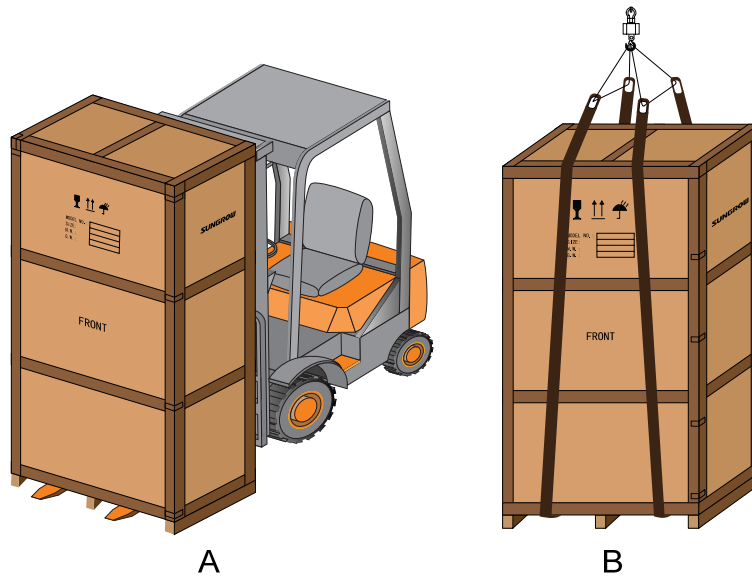

Fig. 7-1 Move the packed inverter
The moving of the packed inverter must be carried out with the aid of specific equipment and in the way shown in Fig. 7-1. Always keep in mind the heavy weight and the uneven distribution of the weight of the inverter when moving.
- It is recommended to move the packed inverter with the aid of a forklift truck, see Fig. 7-1.A:
- Flexible slings with lock catches on both ends are recommended. You can order the slings from the manufacturer, see Fig. 7-1. B.